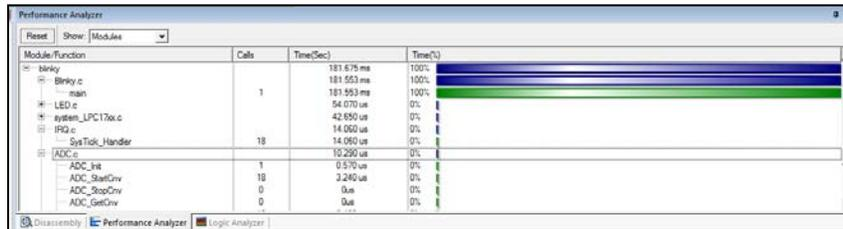

Fig. 9: Performance Analyzer Window
4. Watch the program execution and how the functions are called. You will see something similar to that of Fig. 9. The analyzer is able to gather various statistics dynamically from the program, which may be useful for both debugging and performance assessment. Stop the program when you have finished analyzing with the PA tool.